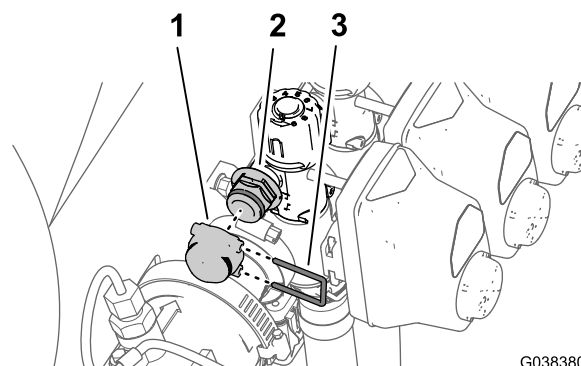

Figure 86
- Assemble the cap onto the quick-connect fitting (Figure 86) with the retainer that you removed in step 1.